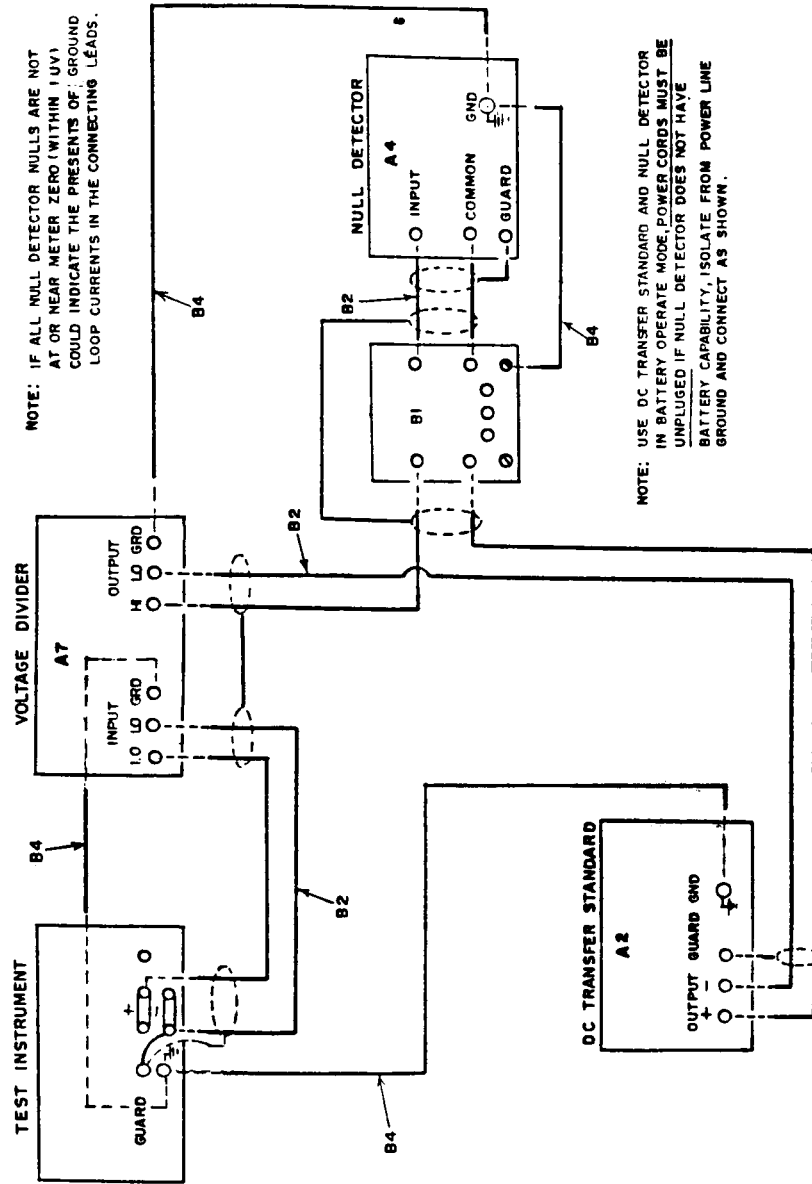

Figure 1. Measurement of $1.018 + \Delta E$ output of dc transfer standard - equipment setup.
i. It is necessary to know actual value of $1.018 + \Delta E$ output of dc transfer standard (A2) to complete this calibration. If calibration of dc transfer standard is no more than 10 days old, the value recorded at time of calibration is sufficient. If calibration is more than 10 days old, determine the value by performing (1) through (11) below:
- (1) Connect equipment as shown in figure 1.